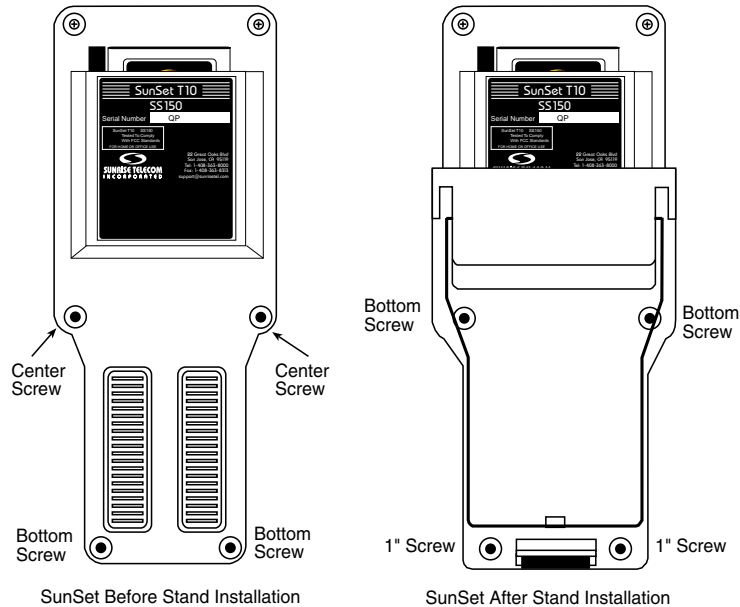

Figure 3 Instrument Stand Installation
8. To install the instrument stand, refer to Figure 3 and the following procedure.